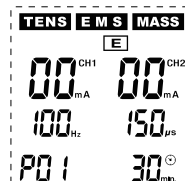

Fig. 11
- ⑯ **(E)**: Special programmes for the **elbow joint** (see. Fig. 11)